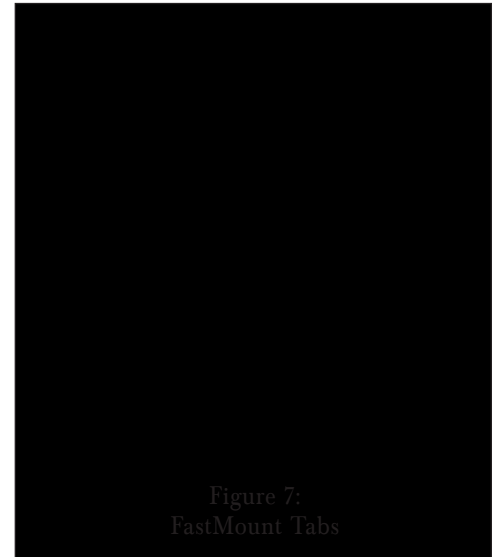

Figure 7:
- The FastMount tabs will prevent the speaker from falling out of the mounting hole, allowing the installer to let go of the speaker to pick-up tools or other items (see *Figure 7*).